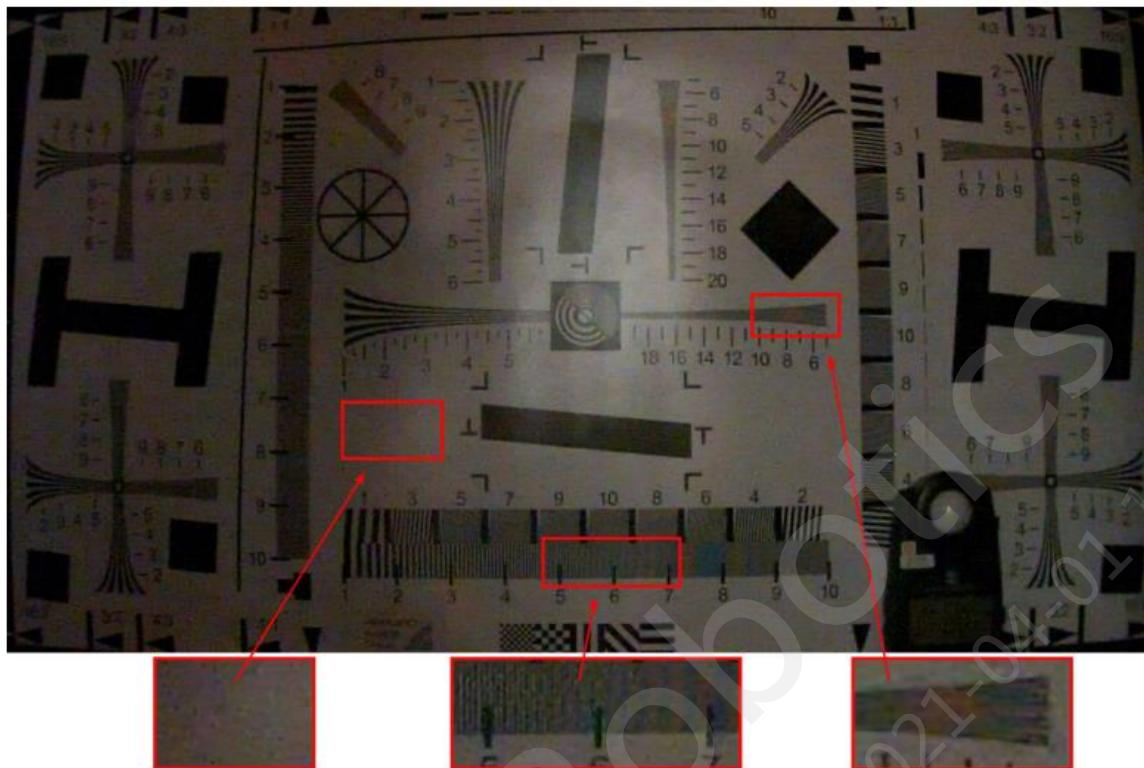

Figure 3.15-15 Image at maximum gain and NP_offset = 50.
3. Now increase the offset to a point where the false edges in the flat areas are reduced without degrading resolution, as seen in Figure 3.15-15. Also ensure that most of the checker pattern has been reduced, making it less visible. Note that false color in the high frequency regions tends to increase.